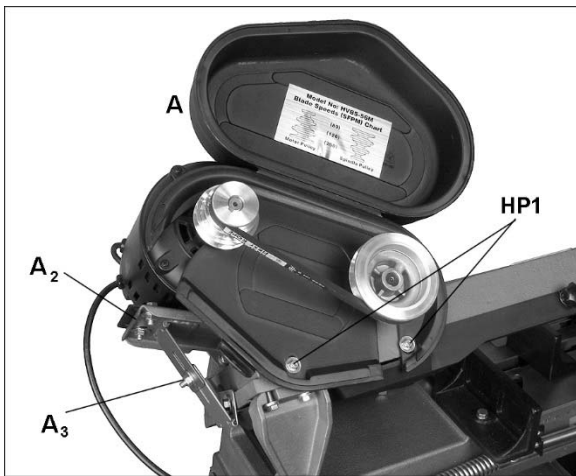

Figure 6
4. Slide pulley cover (A, Figure 6) over pulley spindles and secure with two screws (HP1).